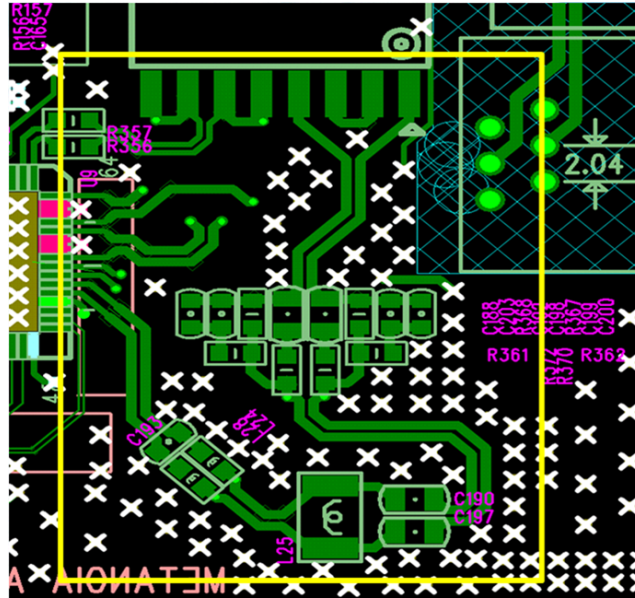

Figure 4.7: Components Placement.
- Hybrid components R361,R362,R368,R367,R370,R372,C188,C192,C198,C190,C197,L25,L24,L28,C193 should be placed in the top layer as shown in Figure 4.7.